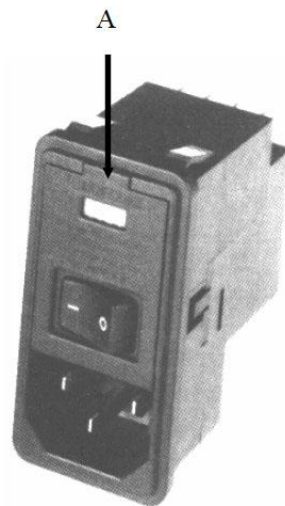
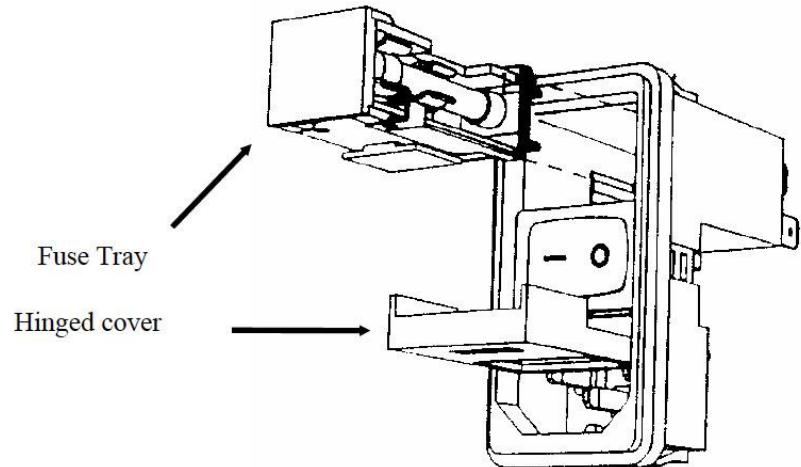
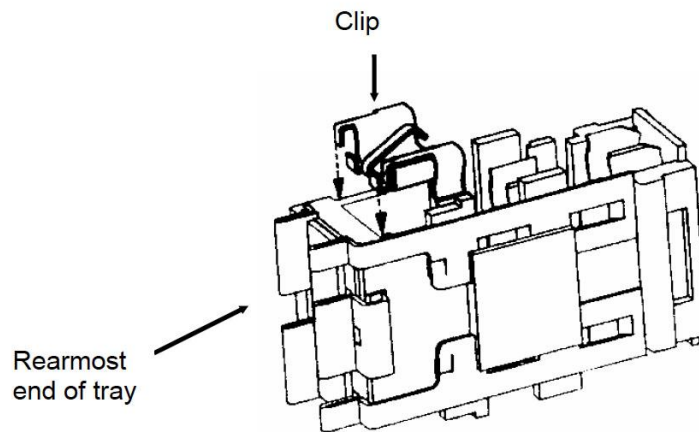

Figure 3
Figure 4
Figure 5. Fuse Tray.
1. Remove the power cord from the power entry module (see Figure 3) located in the rear of the unit.
2. Using a small, flat-blade screwdriver, carefully pry out the power entry module cover at point A, Figure 3. The hinged cover will swing down as shown in Figure 4.
3. Using a small, flat-blade screwdriver, carefully pry out at the top of the fuse tray and carefully remove the fuse tray as illustrated in Figure 4.
4. Holding the fuse tray in the exact orientation shown in Figure 5, observe the small clip shown in Figure 5. Grasp at the two sides of the clip gently remove from the tray assembly as shown in Figure 5.
6. With the two proper fuses in the tray, orient the tray with the two fuses at the sides and the 230V marking at the top, as shown in Figure 4, and insert it with the metal tabs first into the top of the power entry module until it is firmly seated in place. It may be necessary to squeeze the two fuses at the rear to permit them to enter the power module housing. Close the power entry module cover by pressing at the top center until it snaps into place. Insert a suitable 230V power cord.
3. Using a small, flat-blade screwdriver, carefully pry out at the top of the fuse tray and carefully remove the tray as illustrated in Figure 4.
4. Observe the shorting clip in Figure 5 and remove the fuse present in the fuse tray where the shorting clip will go by gently lifting it up at the rearmost end of the tray (where the metal tab extends) and removing the fuse from its retaining clip.
5. Observe the shorting clip placement as shown in Figure 5. Place a shorting clip by hand onto the tray as follows. The tray must be oriented as drawn (the marking PRSR will be at the top of the fuse tray front). The clip must be oriented as shown with the "finger" at the center pointing toward the front of the tray. Do not bend this finger or the required connections will not be made. Grasping the clip only at the sides, slide it down into place on the tray. The base of the clip will insert into the cavity in the tray when it is placed in the correct position. Place one fuse into the compartment in the side of the fuse tray opposite the side with the clip. The fuse rating must be as shown on the back of the unit cabinet. A 20 mm long European fuse must be placed fully to the rearmost end of the tray (closest to the metal tabs extending from the tray) or contact will not be made and the unit will not operate. Both the clip and the fuse must be present in their proper places or the unit will not operate. With the clip and proper fuse in the tray, orient the tray with the fuse at the side and the 115V marking at the top, as shown in Figure 4, and insert it with the metal tabs first into the top of the power entry module until it is firmly seated in place. It may be necessary to squeeze the fuse at the rear to permit it to enter the power module housing. (If the clip and fuse are on the incorrect sides of the tray, it will not be possible to place the tray into the power entry module). Close the power entry module cover by pressing at the top center until it snaps into place. Insert a suitable 115V power cord.